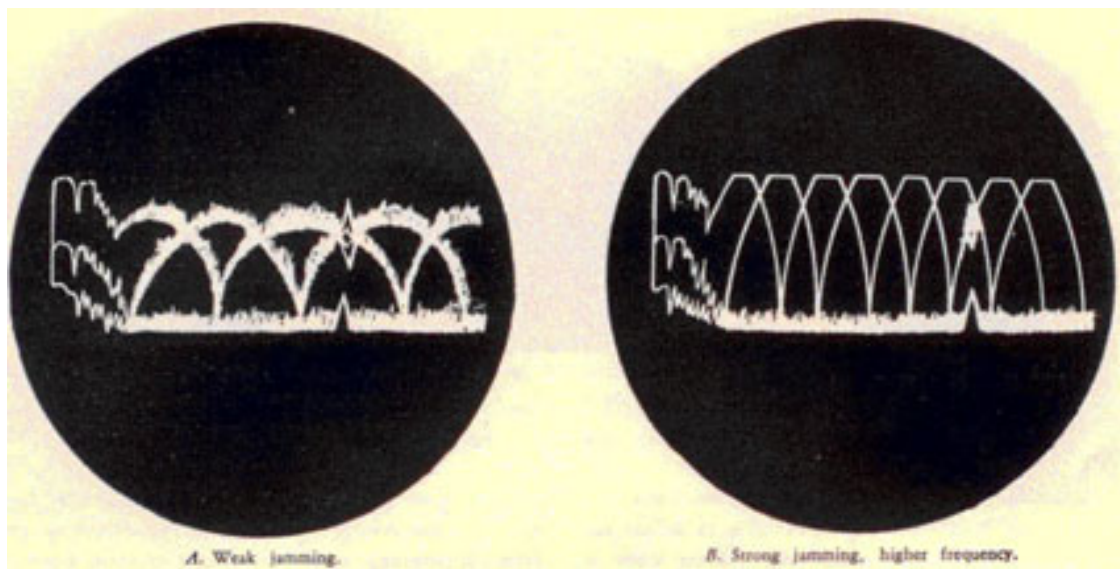

Figure 3-44. Medium-frequency modulated jamming ("basket weave").
that signals will not appear if for any reason the effectiveness of the jamming is suddenly reduced. In figure 3-44 (A) the pip is double-sided, the grass is riding the modulation, and the gain has been adjusted so that saturation is not occurring. B shows a modulation frequency about twice that of A. Saturation is occurring so that the pip does not appear above the jamming pattern, and the normal -receiver grass is not riding on the pattern. This is not dependent upon the modulation frequency, but rather upon the relative strength of the jamming with respect to the echo. The grass could ride on either modulation pattern. If the jamming were not